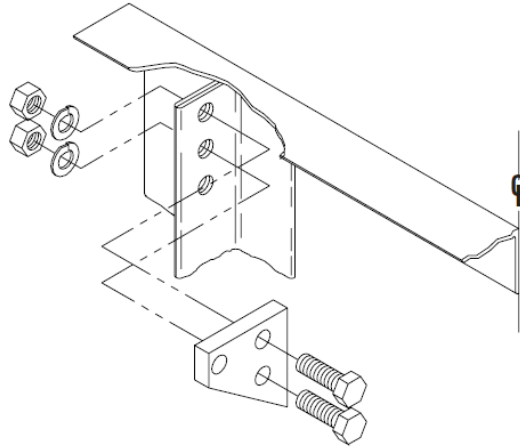
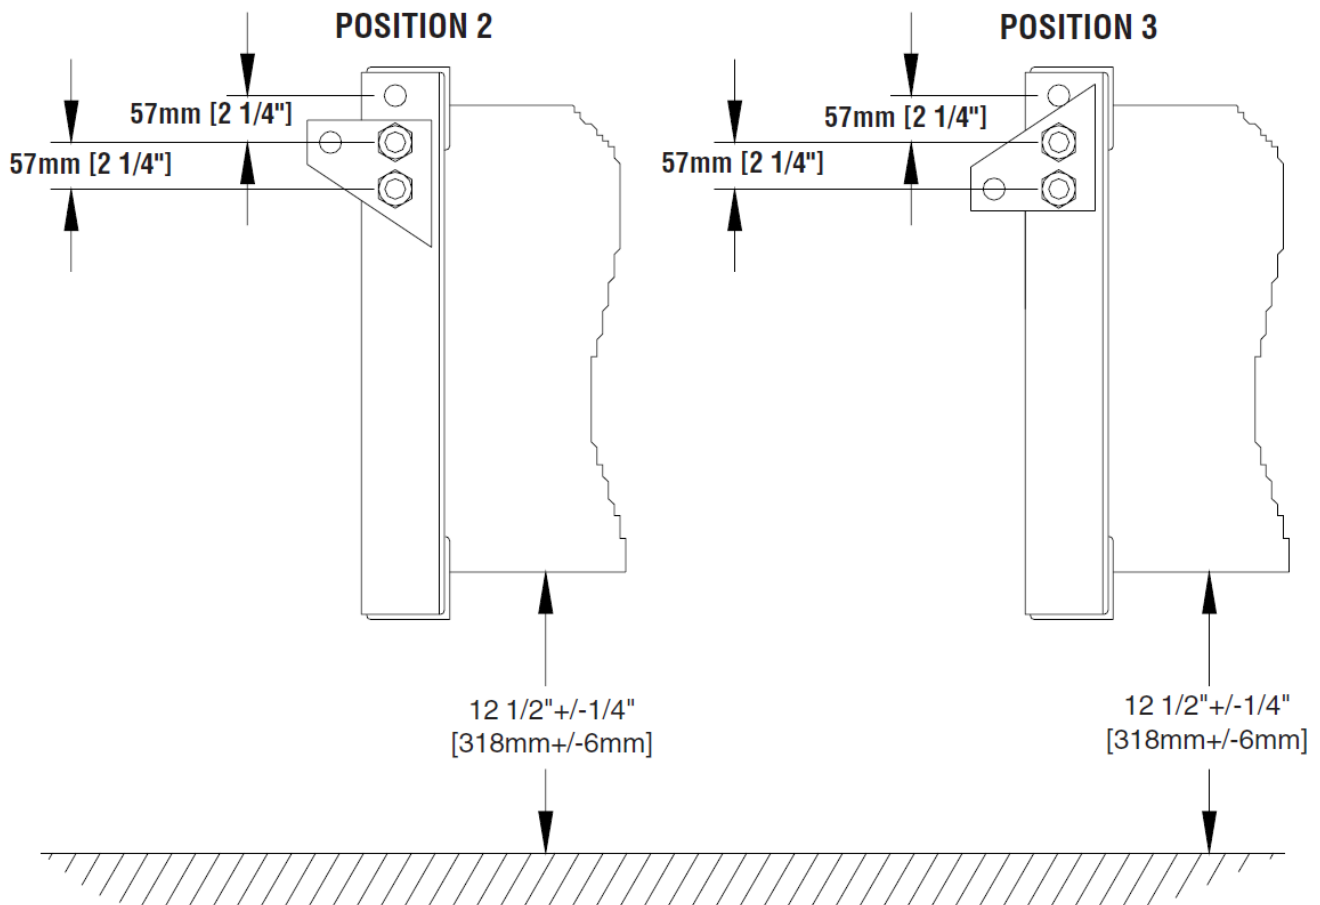

Figure 12
Figure 13
6. Attach the Backup Attachment brackets (P.N. 2725481-0000) to the upper two holes in the backup using the 1" dia. x 3" long hex head bolts, lock washers, and nuts provided; reference Figure 12. Torque the nuts to 338 Nm [250 ft-lbs.] (Note: if the truck has especially low frame, it may be desirable to attach the backup attachment brackets in one of the alternate positions shown in Figure 13.